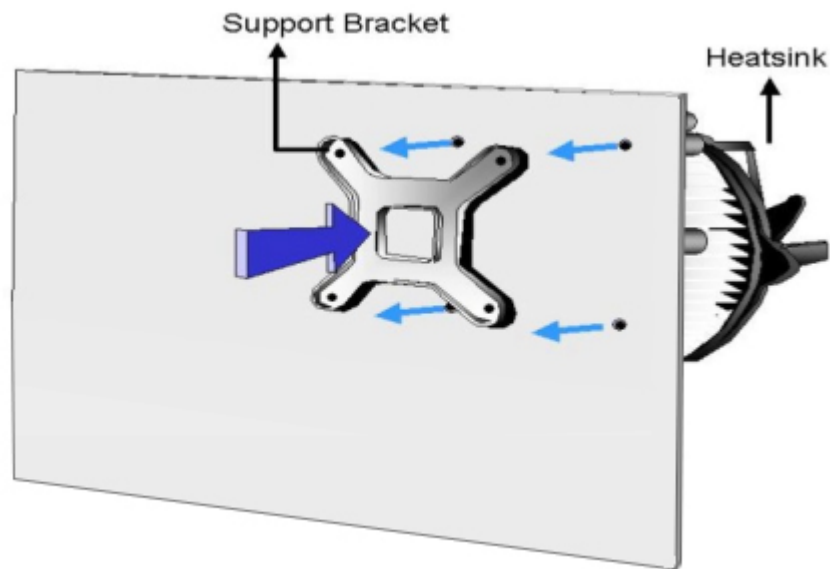

Figure 4-6: Securing the Heat sink to the PCB Board
- Step 4:** Secure the cooling kit. From the solder side of the PCB, align the support bracket to the screw threads on heat sink that were inserted through the PCB holes. (See **Figure 4-6**)